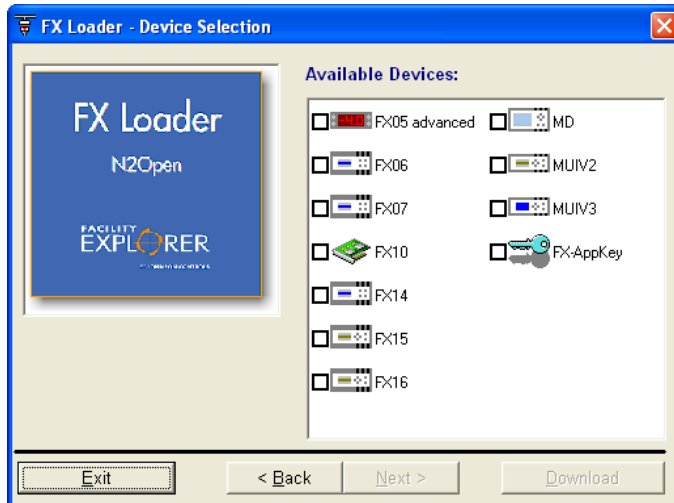

Figure 74: FX Loader - Device Selection Page
4. Select N2 Open and the FX-AppKey icon (Figure 74).